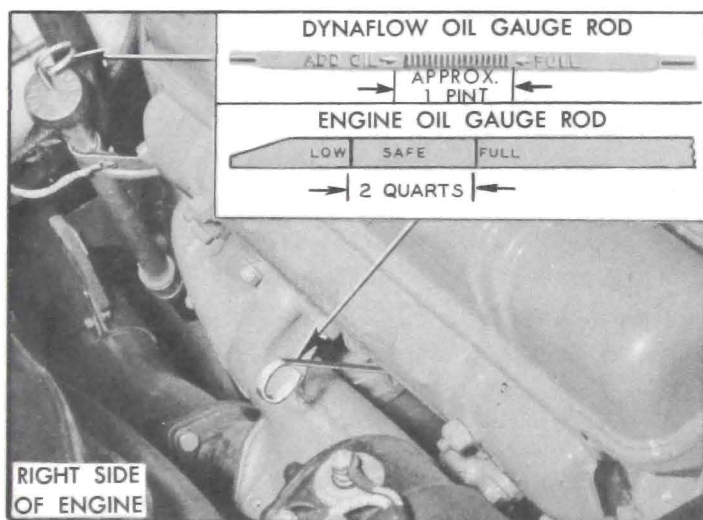

Figure 1-4—Engine and Dynaflo Oil Gauge Rods—Series 50-70
The oil level should be maintained between the "FULL" and "LOW" marks on gauge rod; the space between marks represents 2 quarts. It is best to maintain the oil level within one quart of the "FULL" mark. Do not fill above the "FULL" mark. See figure 1-4.
7. *Dynaflo Transmission.* Check transmission oil level, *with transmission oil warm, transmission in Parking, and engine idling.* Remove gauge rod located under right side of hood (fig. 1-4), wipe dry with clean cloth then reinstall to full depth. Remove rod and note oil level.